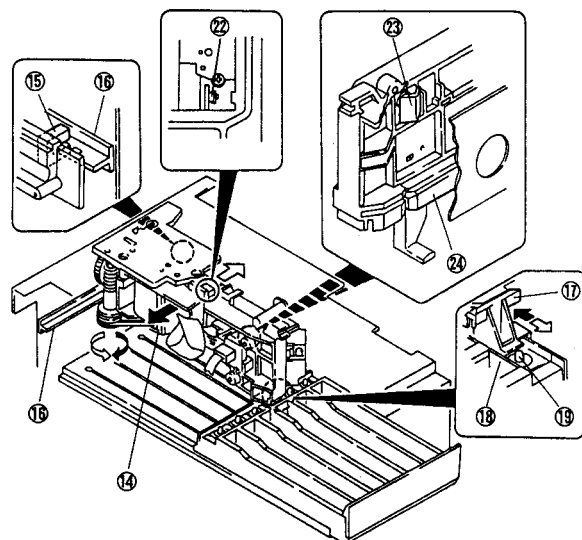

Fig. 10-6
When key operations for loading the first cassette tape are performed, the carrier ⑭ moves in the arrow direction from the cassette mechanism position (home position) to the first cassette tape position as shown in Fig. 10-6.
The carrier ⑭ is equipped with a selector ⑰ as shown in Figs. 10-6, 10-7, which pushes the stopper pin ⑱ mounted to the cassette holder ⑲. (Same as the original mechanism.)
The home position is detected by the SW4 (㉒ of Fig. 10-6) mounted on the carrier ⑭.
Like the original mechanism, the cassette half ㉑ is pressed to the cassette mechanism by the cassette pressure B (㉓ of Fig. 10-6) mounted to the carrier ⑭.
*If the tray is opened with the cassette half ㉑ loaded onto the cassette mechanism, the loaded cassette tape can be detected easily as the color of the cassette holder ⑲ is gray. (Like before, even if the cassette half ㉑ is mounted on the loaded cassette tape, and the tray close operation is made, it will immediately open in the reverse direction.)